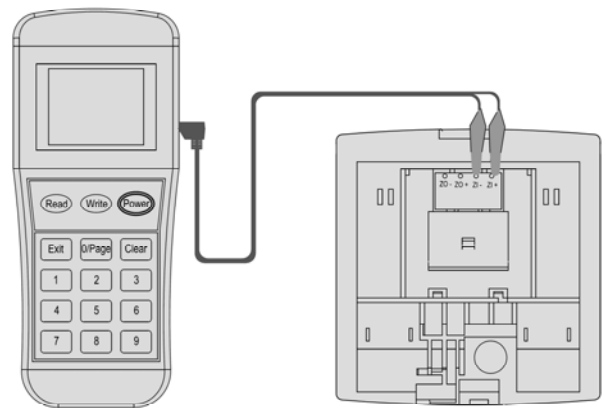

Figure 3
1. Connect the programming cable to ZI+ and ZI-(or ZO+ and ZO-) terminals (Figure 3). Press **"Power"** to switch on the unit.